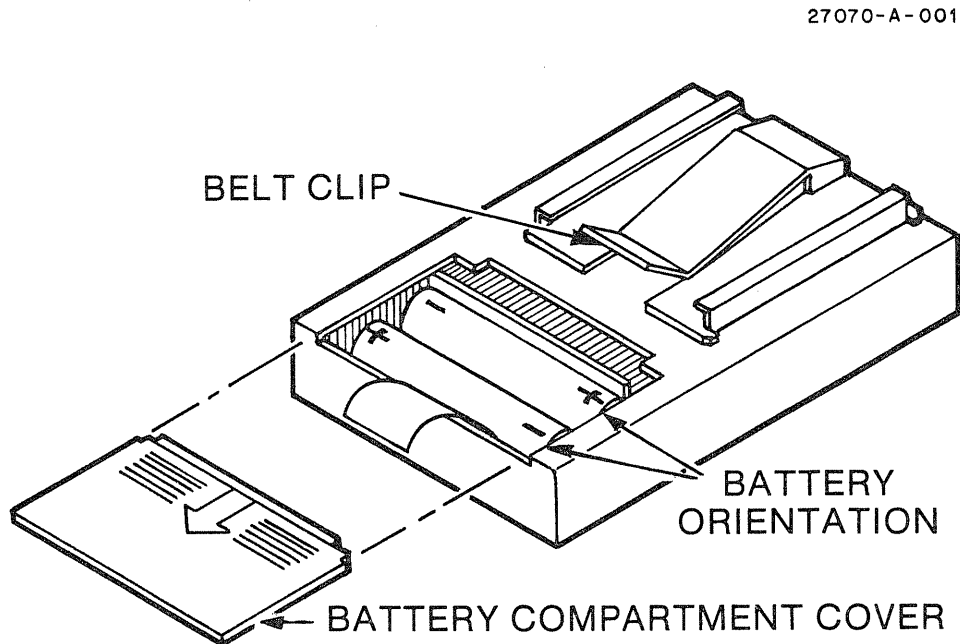

Figure 11
The AAR-10 and AAR-1 Receivers use two (2) AAA batteries. When the batteries are low the sound will be distorted. Replace weak batteries with two fresh AAA batteries, and position them in the battery compartment as illustrated in Figure 11.